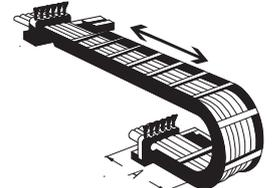

Fig. 2
9. With long energy chains in which the upper drum lies on the lower drum, fasten the cables only at the driver end (→ Fig. 2).